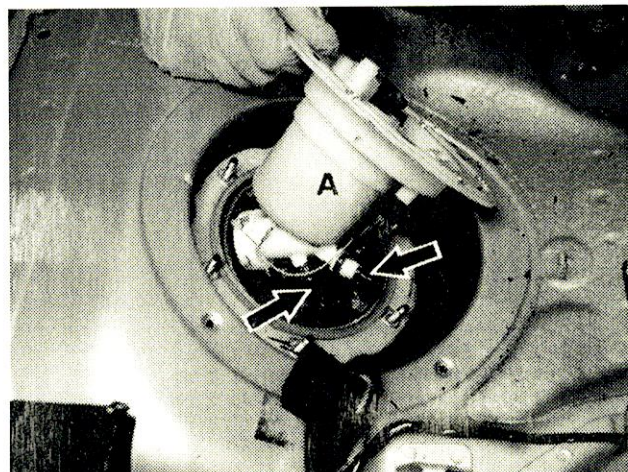

Figure 6
6. Disconnect fuel lines (arrows, Figure 6) from fuel filter (A).
7. Remove fuel filter (A, Figure 6).